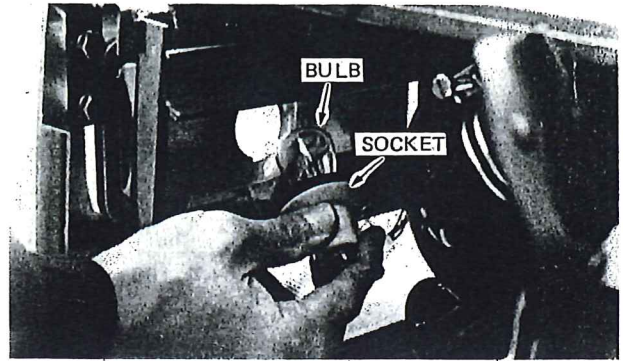

Figure 64 — Headlamp Assembly
3. Slide rubber boot back off the lamp socket, Figure 64.